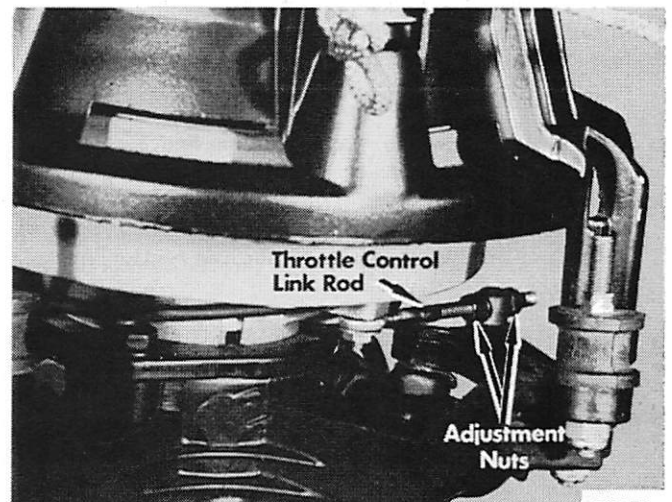

Figure 3. Maximum Spark Advance
7. Turn twist grip to open throttle to maximum spark advance point. (Figure 3)
9. Adjust 2 elastic stop nuts on throttle control link rod so that meter indicates point just closes at .196" BTDC. Tighten locknuts. (Figure 3)
5. Open throttle with twist grip to align timing mark on flywheel with 33° BTDC mark on cowl frame (Figure 6) and adjust 2 elastic stop nuts on throttle control link rod. (Figure 3)